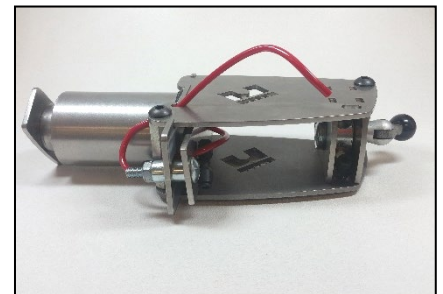

Fig 62
5. Disconnect the red hose from the top valve. (Fig 62)